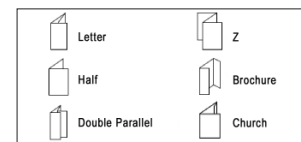
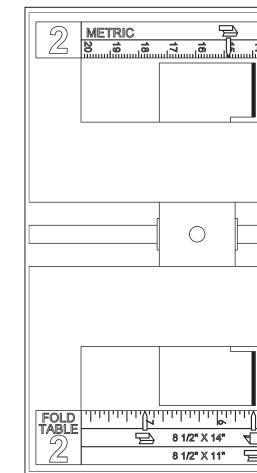
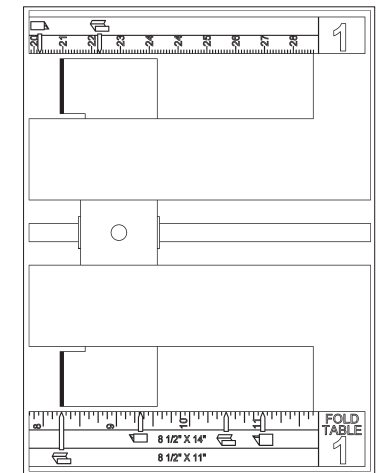

Fig. 9
Fig. 10
Fig. 11
Before attempting to set-up a fold, you should familiarize yourself with the six designated fold style icons provided on the rulers located on each fold table (Figure 9). These icons are arranged in columns on the feed table rulers that represent the three most common paper sizes (Figure 10 and Figure 11).
3. Using the fold table rulers for reference (See Figure 10 & Figure 11), move the paper stop in or out with the corresponding arrow key. Please note that the arrow keys work the paper stops at two-speeds. If the key is pressed momentarily or jogged repeatedly, the paper stop moves at the slower speed. If the key is held longer, the paper stop will shift into the faster speed. This is helpful when moving the stops longer distances.